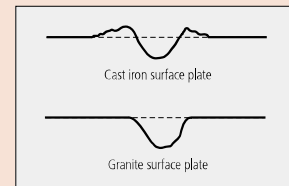

Figure 1
- Since granite is harder, finer grained, and more brittle than cast iron it does not throw up burrs or protrusions if scratched. (See Figure 1.) This ensures a high degree of flatness with no risk of damaging instruments or workpieces.